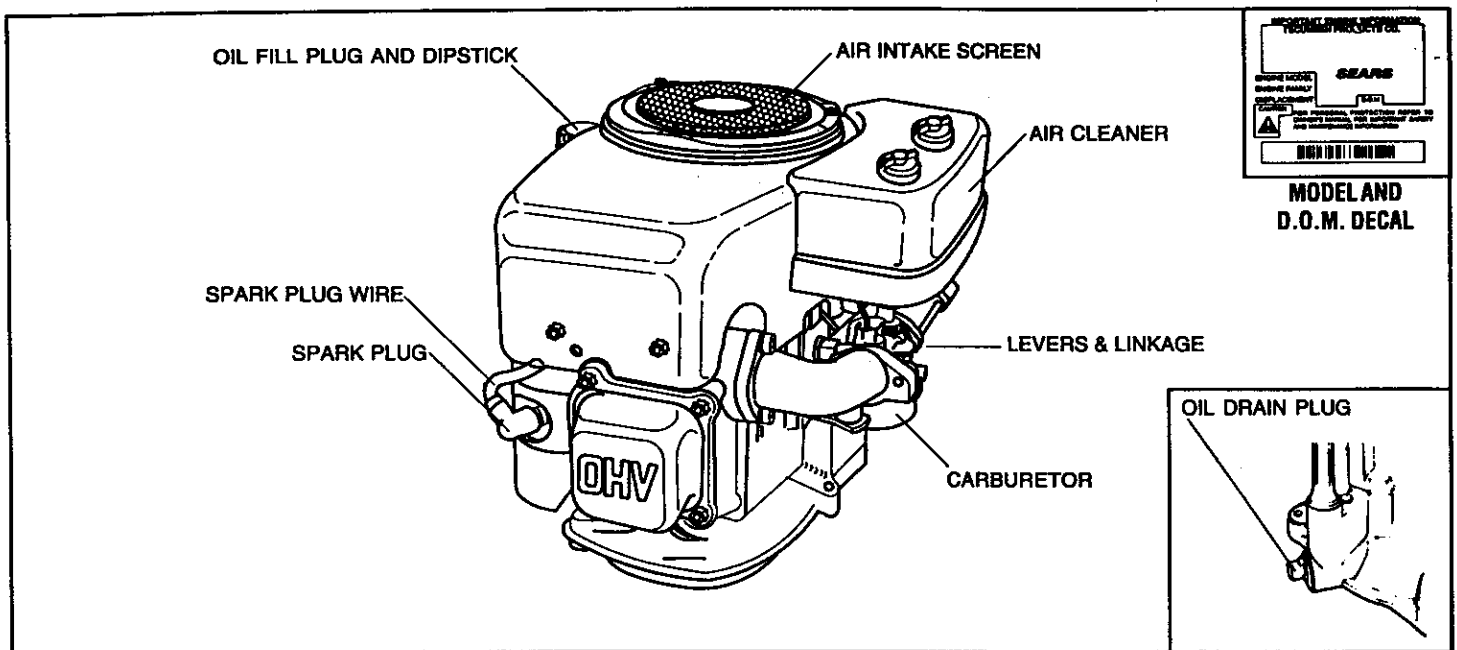

Figure 1
- Clean area around oil fill plug (see Figure 1).
- ④ **CHECK THE FOLLOWING:**
B. **Be sure spark plug wire is attached to spark plug (see Figure 1).**
**BE SURE AIR INTAKE SCREEN (see Fig. 1) IS SECURELY IN PLACE TO AVOID CONTACT WITH MOVING PARTS.**